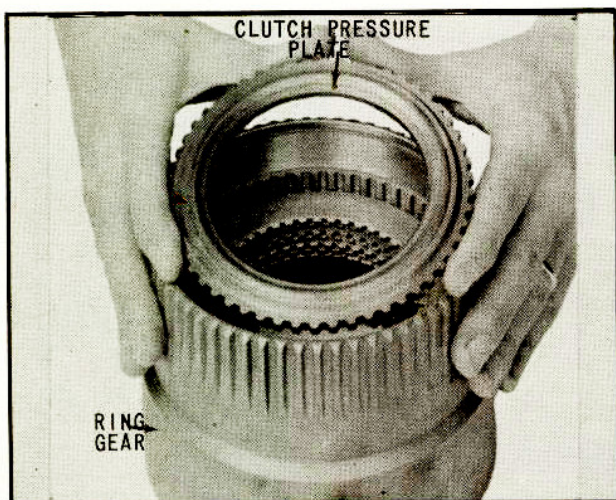

Fig. 31 Installing Clutch Pressure Plate
22. Install clutch pressure plate (front) with flat face down in contact with clutch plate, as shown in (Fig. 31).